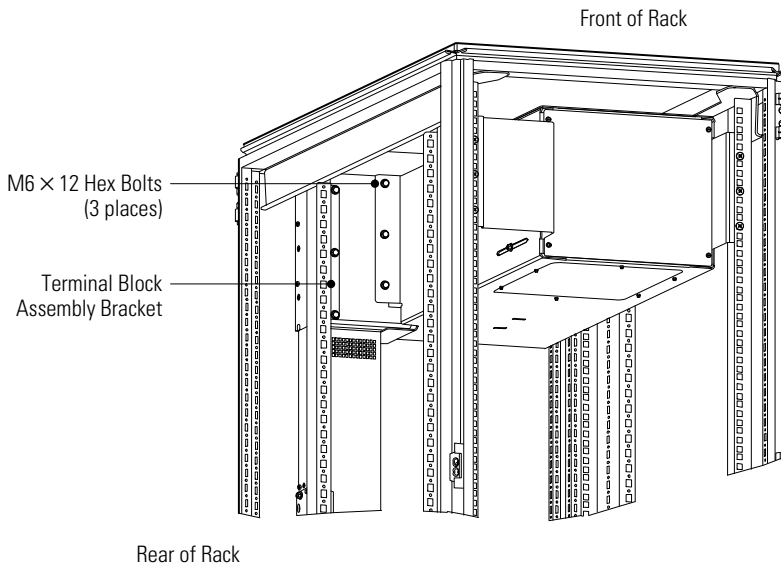

Figure 15. Terminal Block Assembly Installation
10. Note the orientation of the terminal block assembly bracket installed on the bar for later re-installation (see Figure 15). Remove and retain the terminal block assembly bracket and hardware.
12. Secure the bar to the wireway with three M6×12 hex bolts. Install the bolts from the **front** of the rack. See Figure 15. Torque the bolts to 5.1 ± 0.8 Nm (45 ± 7 lb in).
13. Reinstall the terminal block assembly bracket removed in Step 10. Install the bolts from the **front** of the rack. See Figure 15. Torque the bolts to 5.1 ± 0.8 Nm (45 ± 7 lb in).